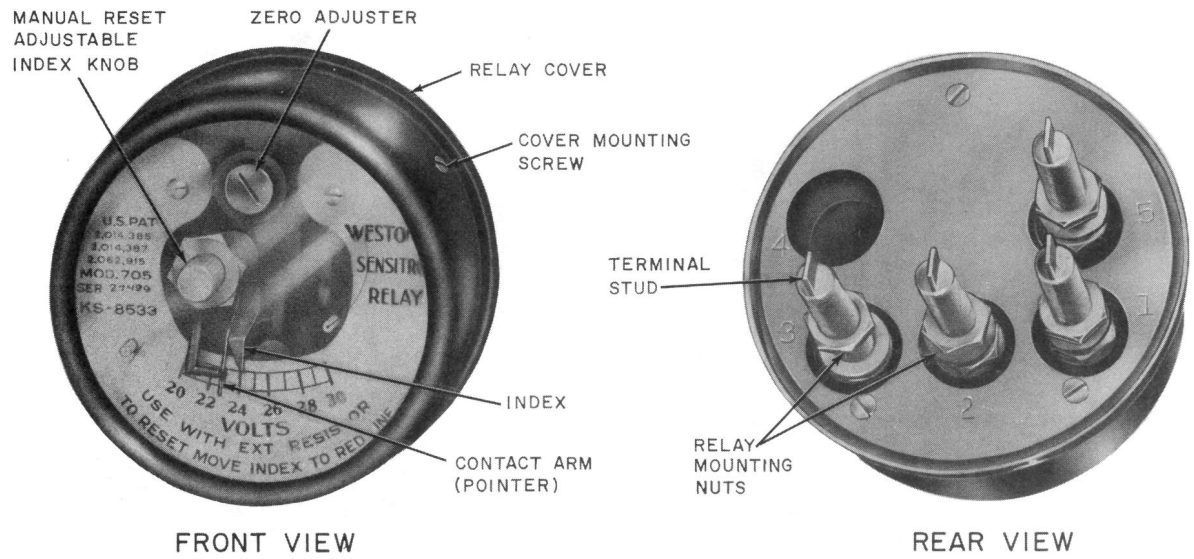

Fig. 1—Model 705 (surface case)—Single Contact—Adjustable Index Reset
1.11 *Weston Models (Fig. 1 through 7):*